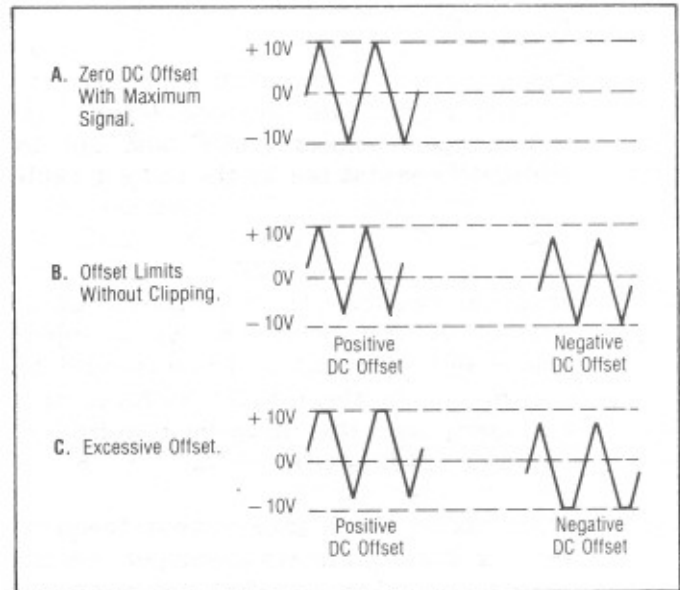

Fig. 4. Use of DC OFFSET control.
- The DC OFFSET control can provide up to ± 10 volts open-circuited, or ± 5 volts into 50Ω . Remember that the combined signal swing plus dc offset is also limited to ± 10 volts open-circuited, or ± 5 volts into 50Ω . Clipping occurs slightly above these levels. Fig. 4 illustrates the various operating condi-